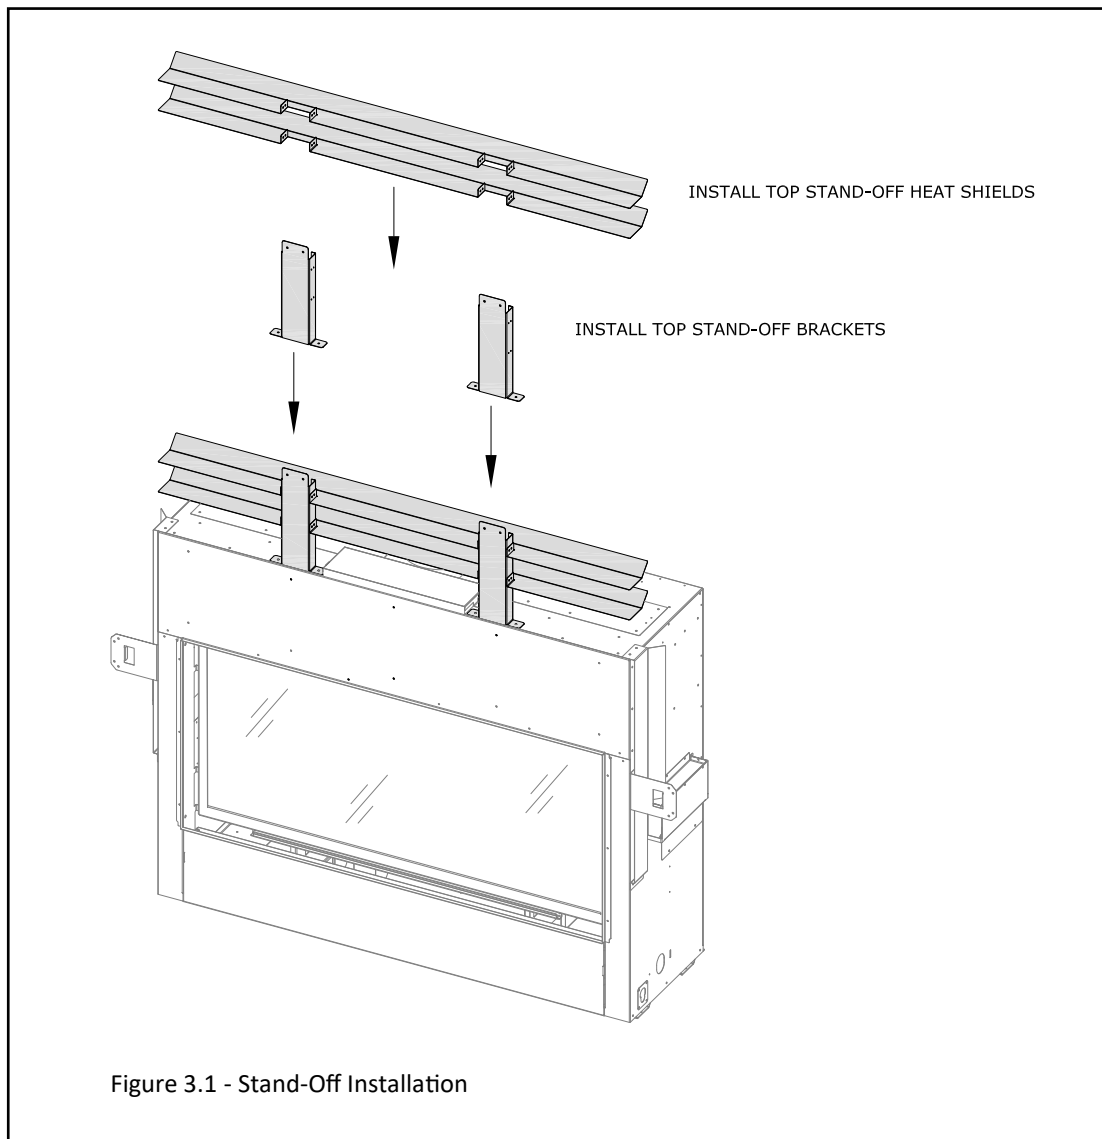

Figure 3.1 - Stand-Off Installation
On both sides of the appliance, there are lift handles that allow a hand lift (no sharp edges), or allow a 2" x 4" piece of lumber to be inserted inside the lift handles, as shown in FIGURE 3.1.
2. Attach the top stand-off brackets with (4) screws to the top of the fireplace as shown in Figure 3.1.
4. Attach the horizontal heat shields to the top stand-off brackets with the (8) screws as shown in Figure 3.1.